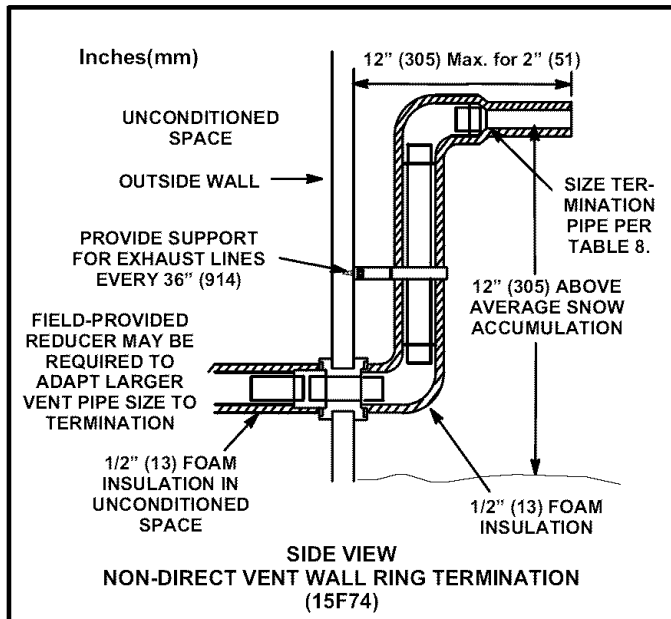

FIGURE 45
- 3 - If exhaust piping must be run up a side wall to position above snow accumulation or other obstructions, piping must be supported every 3 feet (.9m) as shown in figure 26. Refer to figure 45 for proper piping method. When exhaust piping must be run up an outside wall, any reduction in exhaust pipe size must be done after the final elbow.